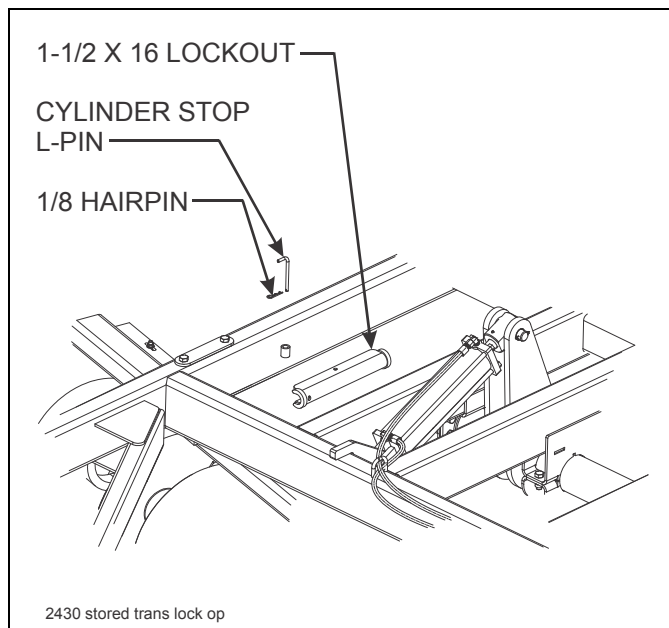

Figure 4-7: Stored Transport Locks
1. Raise the unit to take the weight off of the transport locks. Remove the transport locks from the lift cylinders. Store the transport locks on the retainers above the main lift (See Figure 4-7.)